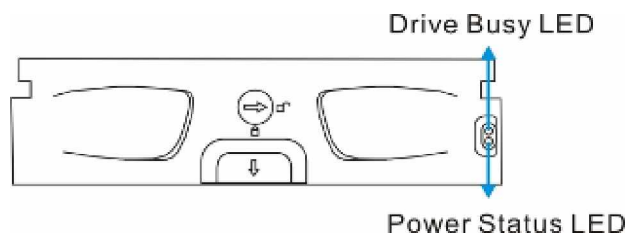

Figure 4-6: Drive Tray LEDs
Two (2) LED indicators are located on the right side of each drive tray. (See **Figure 4-6**) Refer to **Table 4-5** for the LED definitions. When notified by a drive failure message, you should check the drive tray indicators to find the correct location of the failed drive. Replacing the wrong drive can fatally fail a logical array.